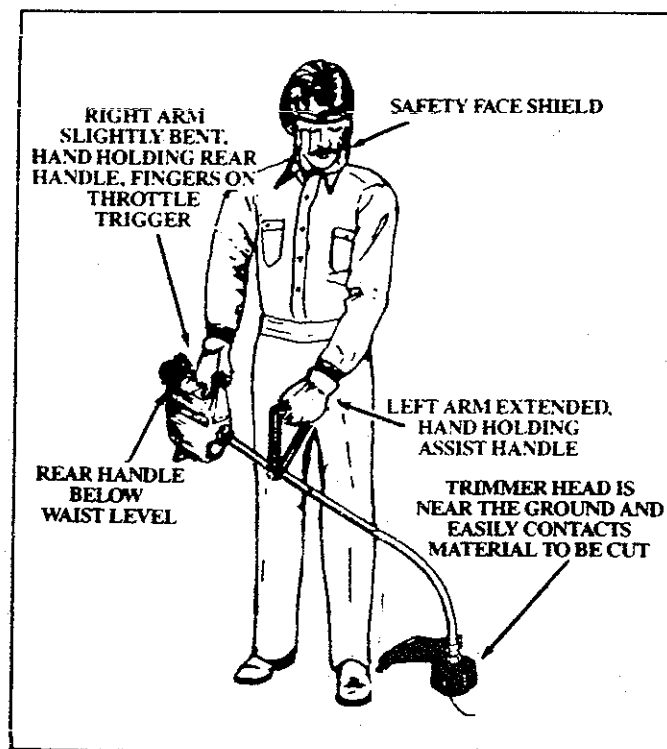

Figure 6
5. OPERATING POSITION — Figure 6
- Before starting the Engine, stand as shown in Figure 6 and check for the following: